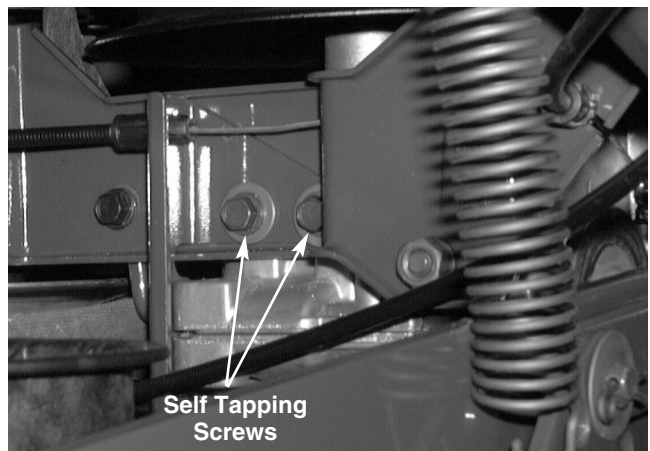

FIGURE 4.
- 7). Remove both hex washer head self tapping screws that secure the transmission support bracket to the transmission using a 3/8 socket. See figure 4.